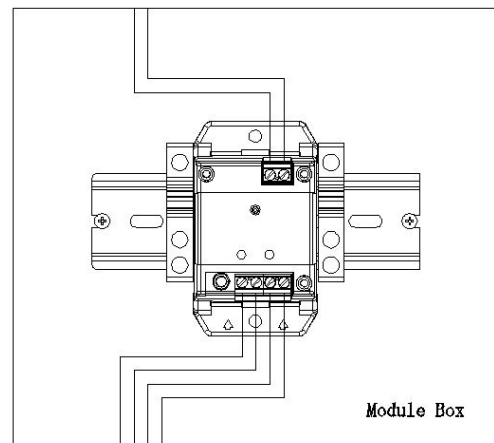
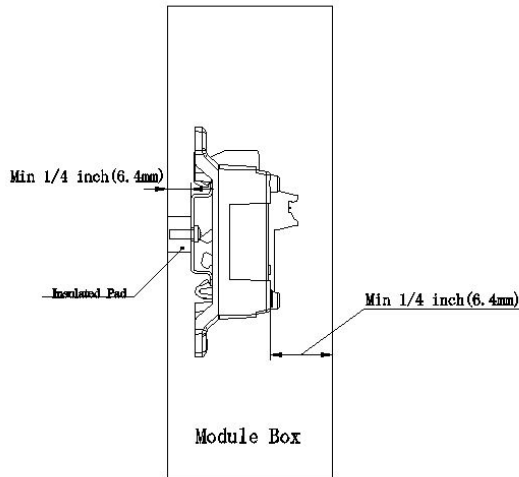

Fig. 2
Fig. 3
- 2) The module shall either be installed in a North America standard metal electrical box. Minimum size is 4 in. square, 2-1/8 in depth (in this case, standard box cover is required), or in a UL Signaling Listed enclosure that provides minimum wiring entries and spacing as shown on Fig 2 and Fig 3. Minimum mounting space is 67 × 40.5 mm.